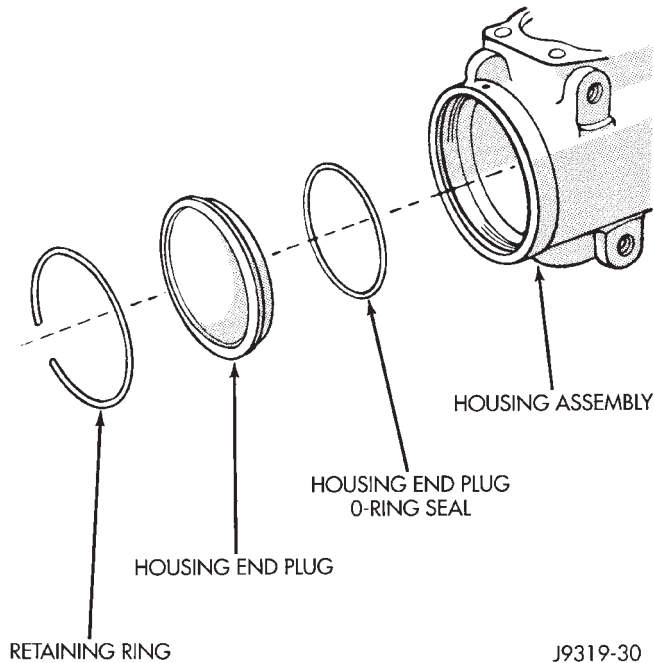

Fig. 16 End Plug Components
- (2) Rotate stub shaft slowly COUNTER-CLOCKWISE to remove end plug out from housing (Fig. 16).
(3) Remove O-ring seal (Fig. 16).